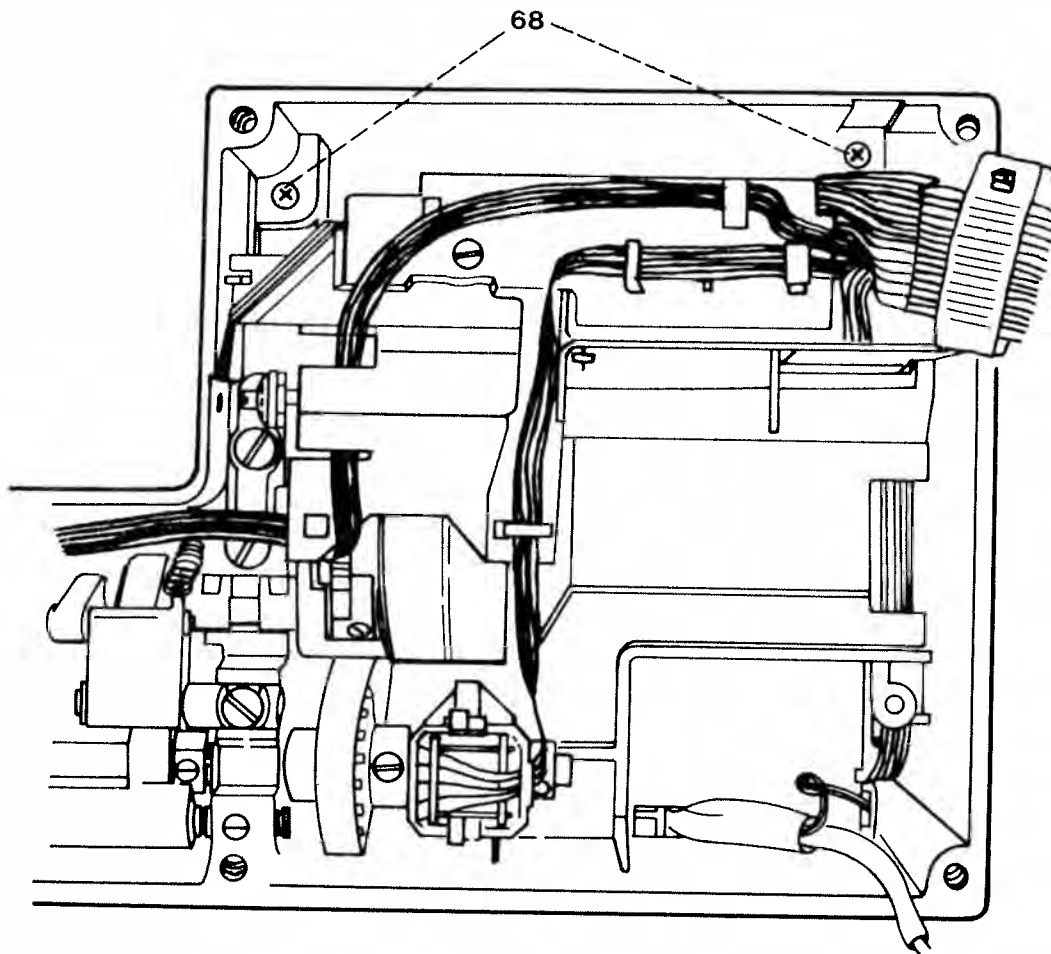

Fig. 38b
- Unscrew both screws 68 (Fig. 38b).